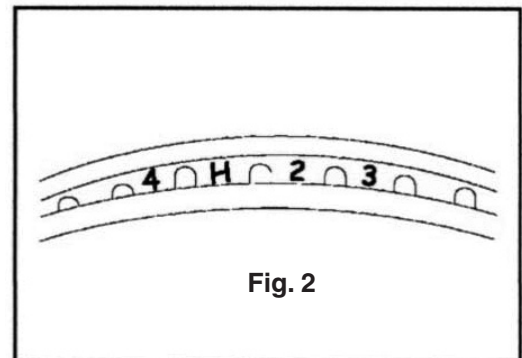

Fig. 2
*Expedition/Navigator...* If you are troubleshooting a front brake roughness or shudder condition on a 2004–2006 Ford Expedition or Lincoln Navigator, be advised that traditional procedures such as machining the rotors will not likely resolve the complaint. Ford advises that some 2004–2006 Expedition and Navigator vehicles built on or after 12/18/2003 may encounter a recurring brake roughness or shudder symptom during brake application. The date code on the rotor should be checked to determine if the vehicle has the new or old style rotors. The date code can be found on the edge of the rotor between the cooling fins, as illustrated (see Fig. 2).